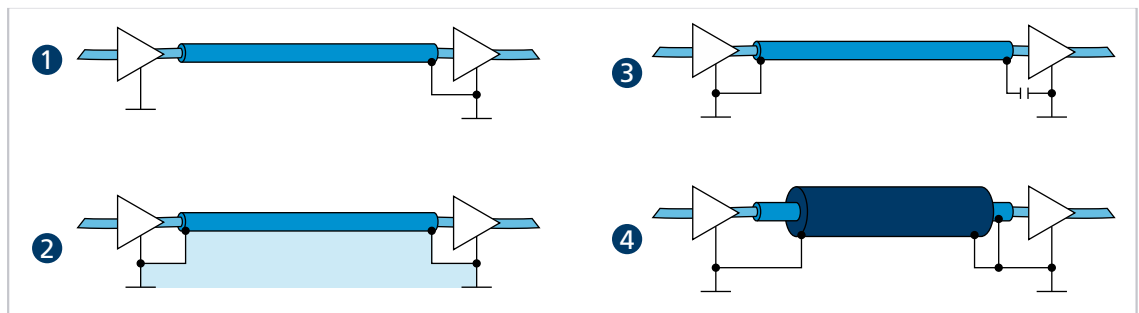

Fig. 32:
- ▶ Lay the motor phases in a shield, separate from the sensor or encoder signals, and connect on at least the motor side (see 1 or 2 in Fig. 32).
The sensor signals can optionally be laid with the motor phases in a shared cable/insulation hose using another outer braided shield. This outer braided shield must be connected at both ends (e.g., 4 in Fig. 32). A solution such as 2 in Fig. 32 is not functional in every case for this configuration. If this is not possible by means of a ground offset, establish the RF connection via specially suited capacitors (e.g., safety capacitors such as Y1/Y2/X1/X2, see 3 in Fig. 32). In this case, do not connect the shield multiple times except at the motor connection and controller side.